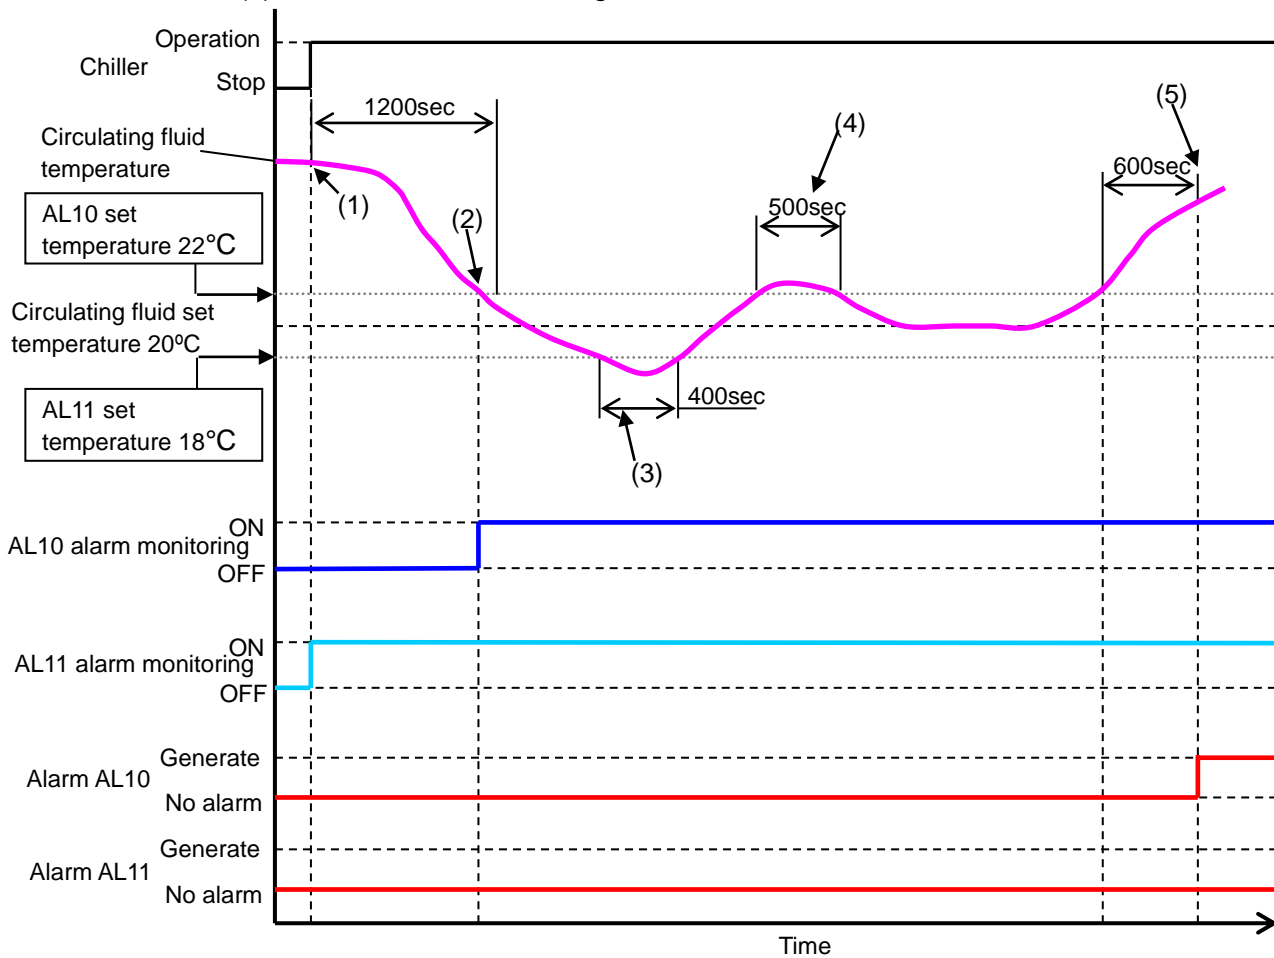

Fig. 5-5 Alarm monitoring timing
If [ RUN ] is selected as (3) "Monitor Timing" alarm monitoring condition, [ OFF ] and [ AUTO ] can be additionally selected. [ AUTO ] is a function to start alarm monitoring when the circulating fluid temperature rises/drops within the alarm setting temperature range in the time period specified by (4) "Start Time" (no monitoring time). Specific alarm monitoring timing is shown in Figure 5-5 Alarm monitoring timing.